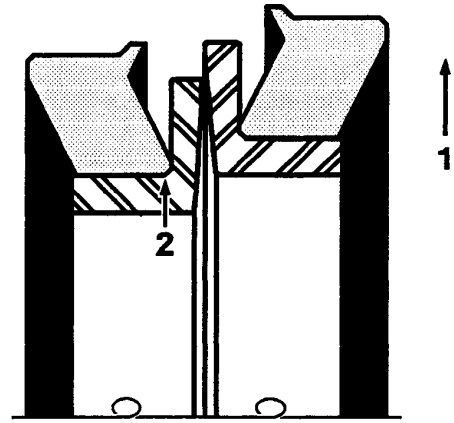

Fig. 14.65. Metal Ring Faces Checking
- Carefully remove shrinkable plastic and gently "slide" (1, Fig. 14.65) two seal halves apart. Be careful not to scratch or damage seal faces. Do not cut or damage rubber rings. Metal ring faces must not be damaged or contaminated. Check to be sure rubber rings are seated flush against inside shoulder (2) of metal ring.